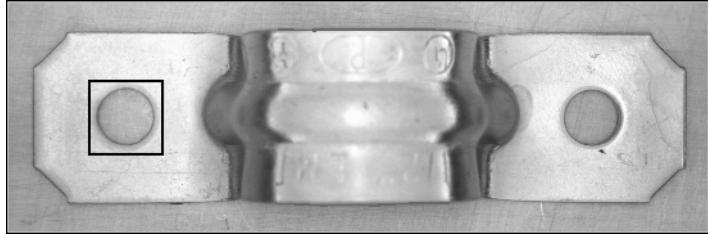

Figure 4-2. Selecting a Template Pattern
2. With the **Rectangle Tool**, click and drag a box around the left hole in the image, as shown in Figure 4-2. The selected area, or region of interest (ROI), will become the template pattern.